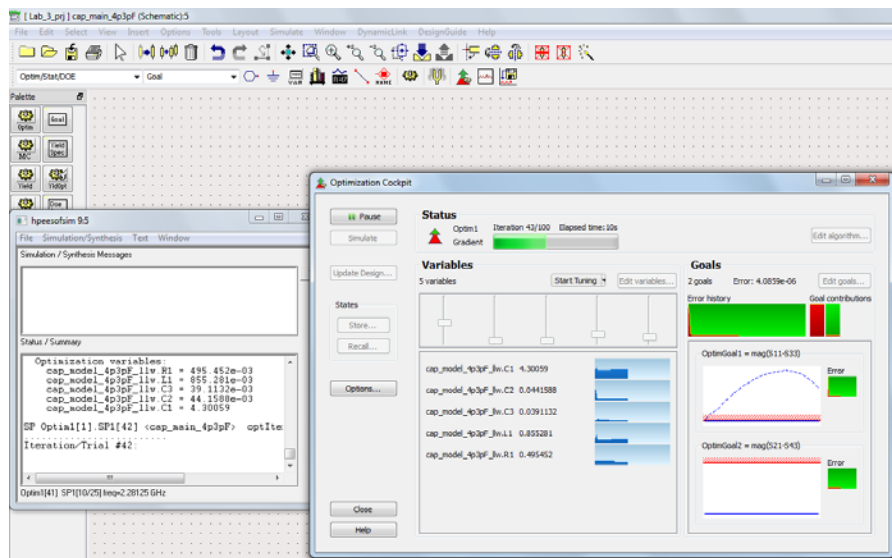

Figure 15: Optimization Windows
19. Now activate the “OPTIM” block and click the optimize button. The optimization will be performed. The optimization cockpit window will be similar to that shown in Figure 15.